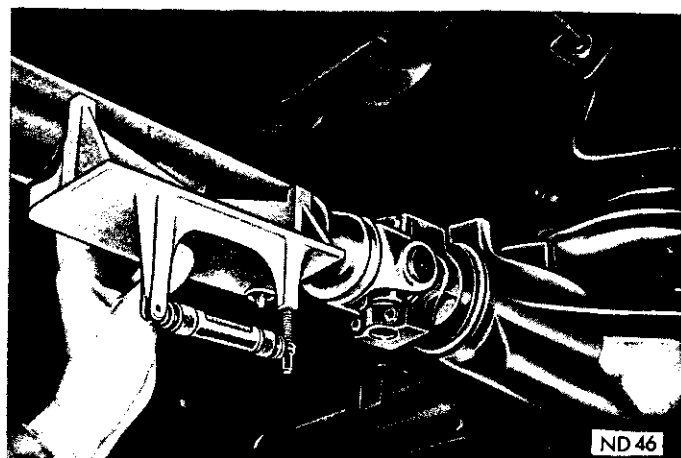

Fig. 11—Measuring Rear Universal Joint Angle
(3) Remove gauge SP-5060 from differential and carrier assembly and position it squarely and firmly along underside of propeller shaft (Fig. 11). Make sure Veeway is in alignment and that both adapter pins are contacting shaft. Be sure arrow on gauge is